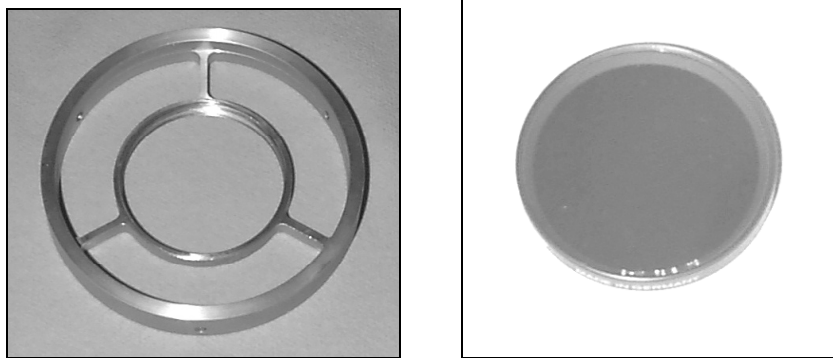

Figure C-1. Left: the Close Range Attenuator Mount. Right: the Neutral Density filter.
The Close Range Attenuator consists of two parts: (1) the mount (see Figure C-1) and (2) the neutral density filter (see Figure C-2).